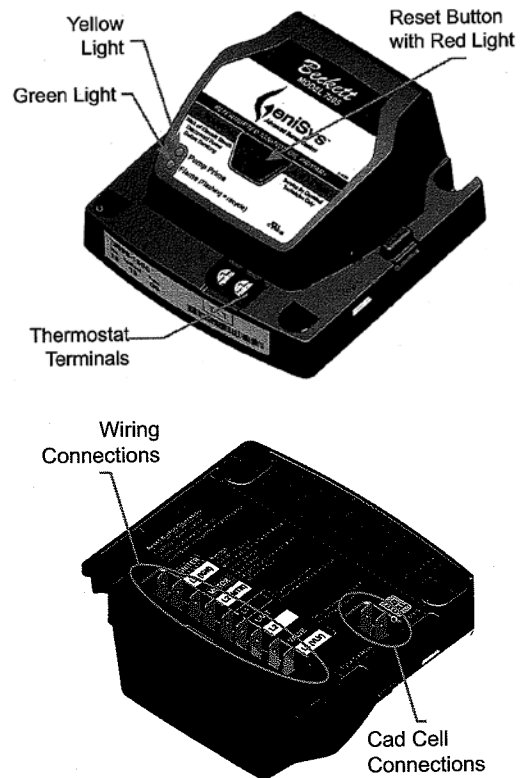

Figure 39: GeniSys 7505 Oil Primary Terminals, LED's and Reset Button
a. GeniSys 7505 Control Features, see Figure 39.
- At burner start up, click the reset button while the igniter is still on. This will transition the control to a dedicated Pump Prime mode, during which the motor, igniter, and valve are powered for four (4) minutes. The yellow light will be on.
- At the end of four (4) minutes, the yellow light will turn off and the control will automatically return to standby mode.